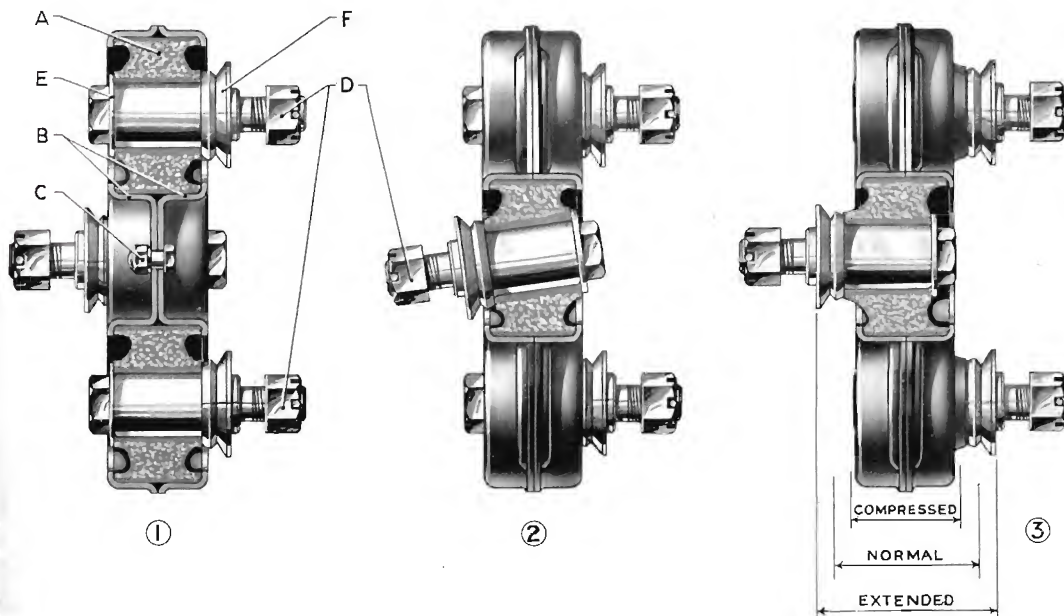

Fig. 1.
The couplings consist simply of resilient inserts (A), Fig. 1, of compressed rubber contained in twin housings (B) clamped together by five bolts (C). The couplings and propeller shafts are connected by bolts (D).
To swing the front propeller shaft aside when removing the gearbox, uncouple the front coupling from the gearbox flange, by removing the bolts (D), Fig. 1, slacken the four centre-bearing clamp-screws, release the lubrication pipe and unscrew the dowel locating the housing on the cross-member. The centre-bearing housing can then be moved along the cross-member until the shaft is clear of the gearbox and the front end slung conveniently. **Do not allow the shaft to hang from the centre-bearing.**
To remove the couplings, take out the four bolts (D), Fig. 1, the couplings may then be dismantled by removing the five clamping bolts (C). If the resilient inserts (A) require renewal, the complete coupling should be returned to Leyland Service Depot